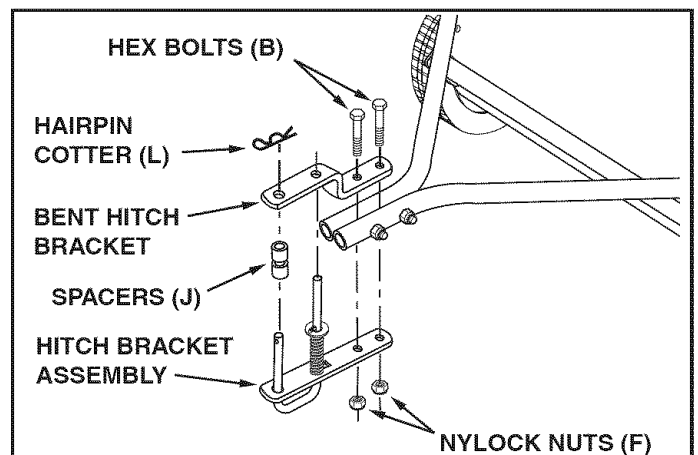

FIGURE 7
- If the tractor hitch is 10" or more above the ground, assemble the hitch brackets as shown in figure 7. Insert two hex bolts (B) through the brackets, with the rear hex bolt between the cross bolts in the hitch tubes. Secure the hex bolts (B) with two nylock nuts (F). **Do not tighten yet.** See figure 7.
- Assemble the two spacers (J) onto the hitch pin and secure the pin with the hairpin cotter (L). See figure 7.